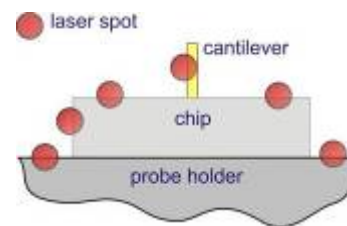

Fig. 2-8
- c. No image of the spot is seen on the screen. This means that the laser beam hits either the chip (Fig. 2-8) or the probe holder and cannot leave the measuring head.